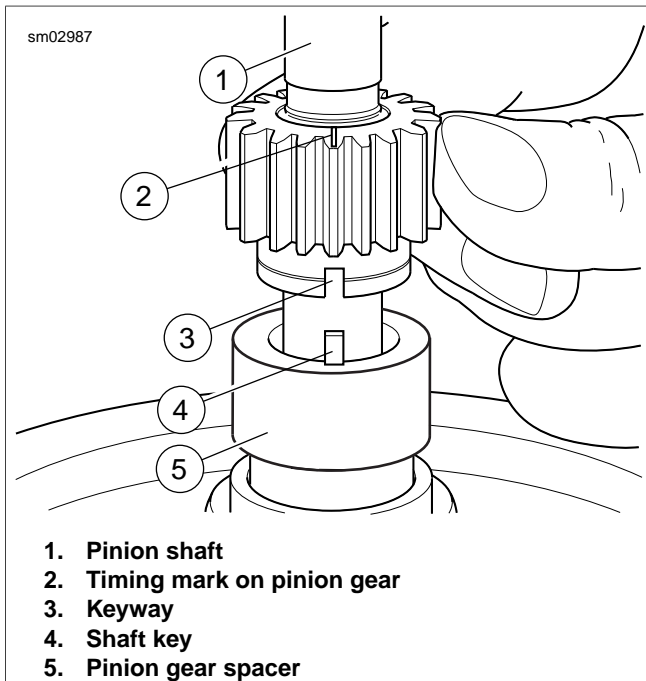

Figure 3-112. Aligning Pinion Gear
1. See Figure 3-112. Install pinion gear spacer and pinion gear on pinion shaft.